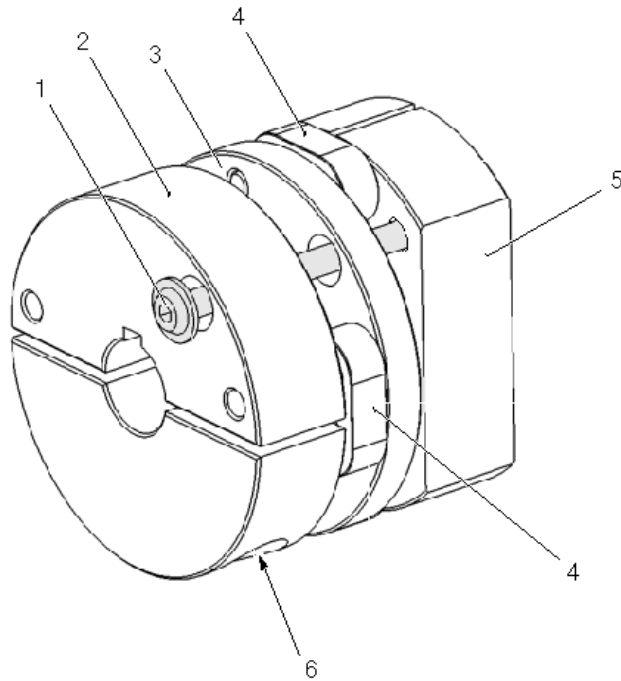

Figure 7-5 Individual components of the coupling
CAUTION: The coupling is held together by a long securing screw (Figure 7-5). The screw has to be removed before detaching the coupling and then be put back into place later.
6. Center the coupling disks (2, 4, 5, Figure 7-5) to one another and allow the coupling link (3, Figure 7-5) to hang vertically. Turn the coupling half on the motor shaft to its position by hand.
7. Tighten the coupling screws (5, Figure 7-5).
- The coupling is flattened on the pump side (Figure 7-5).
- Torque for coupling screws (6, Figure 7-5):
12. Tighten the coupling screws (3, Figure 7-5).
3. Tighten the coupling screws (3, Figure 7-5).
5. Tighten the coupling screws (3, Figure 7-5).